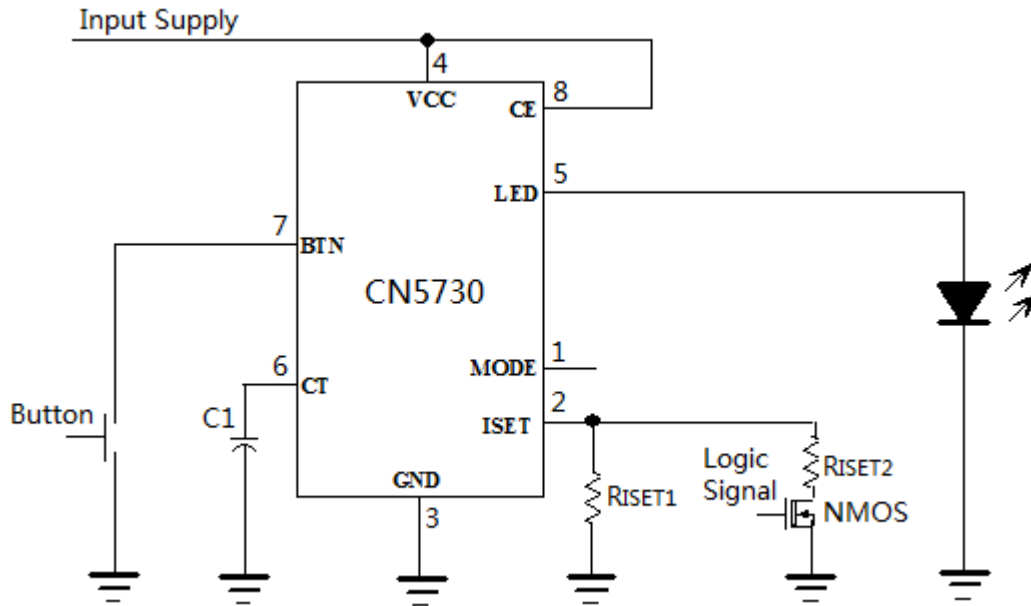

Figure 6 A logic signal to Dim the LED
**Method 1:** The PWM signal is applied to the chip enable pin (CE). Since soft start is activated by the rising edge of CE pin, the soft start time should be taken into consideration when choosing PWM signal's frequency and pulse width. Generally speaking, the frequency of the PWM signal should be less than 2KHz.
**Method 2:** A logic signal is applied to the gate of an NMOS as shown in Figure 6.